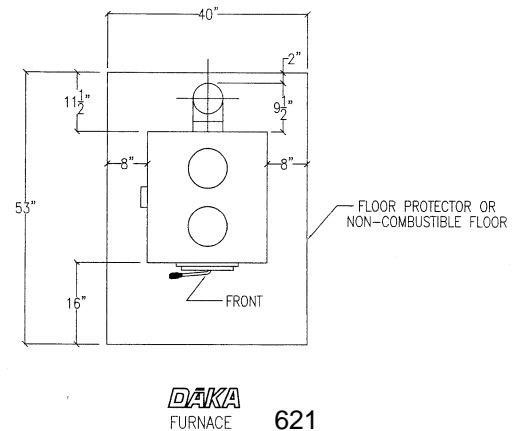

FIG. 5 – Alternative Warm Air Plenum Pipe Insert Designs
NOTE: SUPPLY PLENUM MUST BE METAL! A back draft damper must be installed in the warm-air supply plenum of the primary furnace below the point where the warm air ductwork connection from the DAKA furnace enters the plenum. Actual design and installation procedure for such a back draft damper is left to the installer, due to the large number of plenum configurations involved. See FIG. 1 & FIG. 5 for illustration of placement.
2. Attach each 90° sheet metal elbow to one end of straight 8" pipe. Insert elbow into supply plenum of primary furnace with outlet pointing upward. Slip collar over straight end of 8" pipe and push up tight against supply plenum for a good air seal. See FIG. 1 & FIG. 5.
IMPORTANT: The 90° elbows within the supply plenum forms a venturi to extract air from DAKA furnace when primary furnace blower comes on. An absence of these elbows will cause backpressure down the warm air pipe to the DAKA furnace, adversely affecting heat distribution, and possibly damaging the DAKA furnace. If space prohibits installation of 90° elbow as recommended, see FIG. 5 for alternate designs.